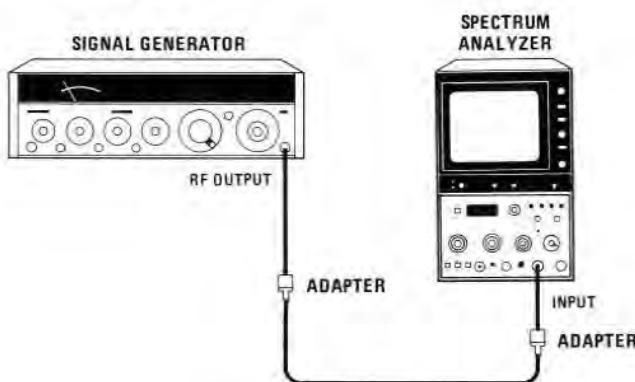

FIGURE 4-7. NOISE SIDEBAND TEST SETUP
- Connect equipment as shown in Figure 4-7.